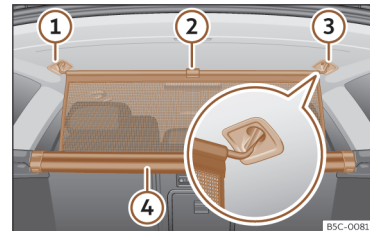

Fig. 132 In the luggage compartment: securing the net partition.
- Pull up handle »» Fig. 132 ② to remove the net from the casing ④.
- Hook in the net partition on the right or left side ③ (magnified image).
- Hook in the net partition into the housing on the other side ① by pulling the rod.